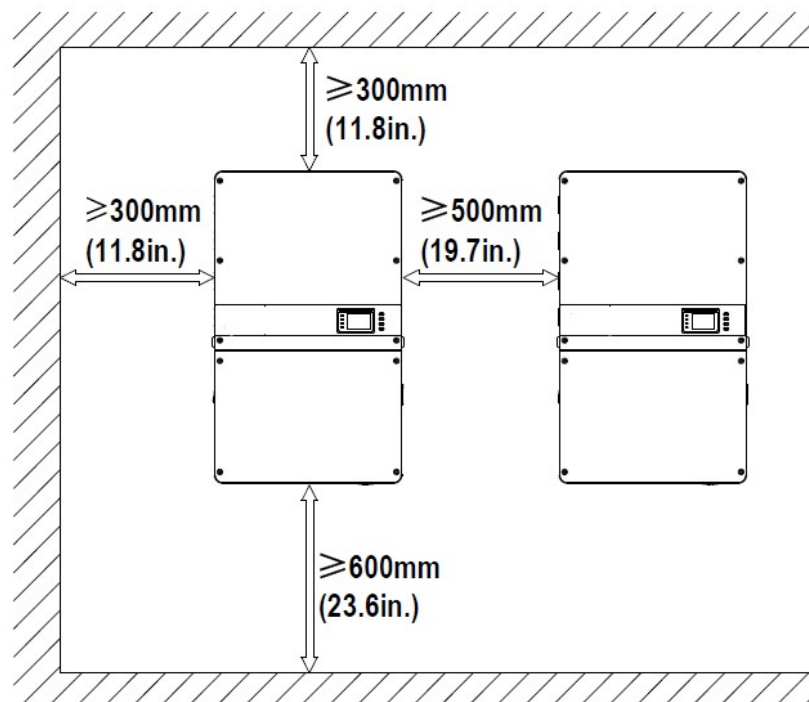

Figure 4-3 Inverter Minimum Spacing and Clearance Area
- ☐ Sufficient space according to Figure 4-3 must be provided to allow the inverter cooling system to operate effectively.
It is important to allow ample spacing for ventilation, wire management, and service. The minimum spacing requirements are shown in Figure 4-3. Always keep the clearance area free from debris, plants, and other obstructions.